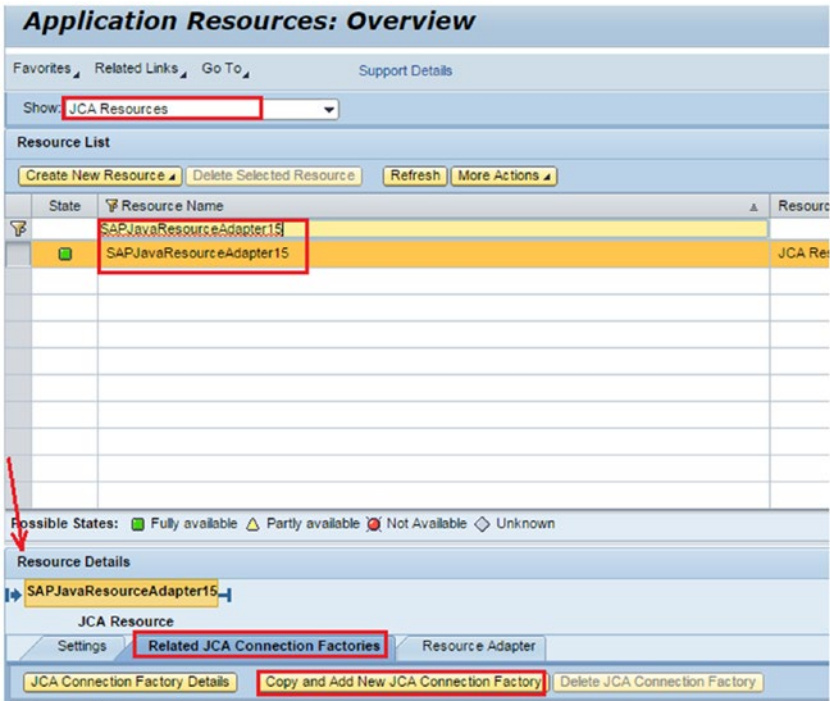

Figure 7-160. JCA Connection factory configuration creation
6. Choose Copy and Add New JCA Connection Factory to define the JRA connection. See Figure 7-160.